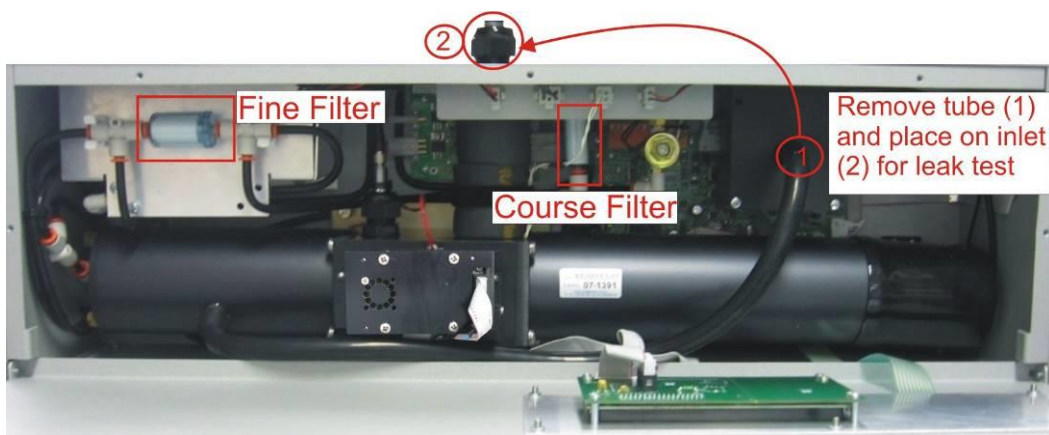

Figure 43 – Aurora with filters highlighted and leak test setup shown
3. Disconnect the external sample tubing from main sample inlet (2).
4. Remove the black tubing from exhaust fan (1) and place it on main sample inlet (2) as shown in Figure 43.